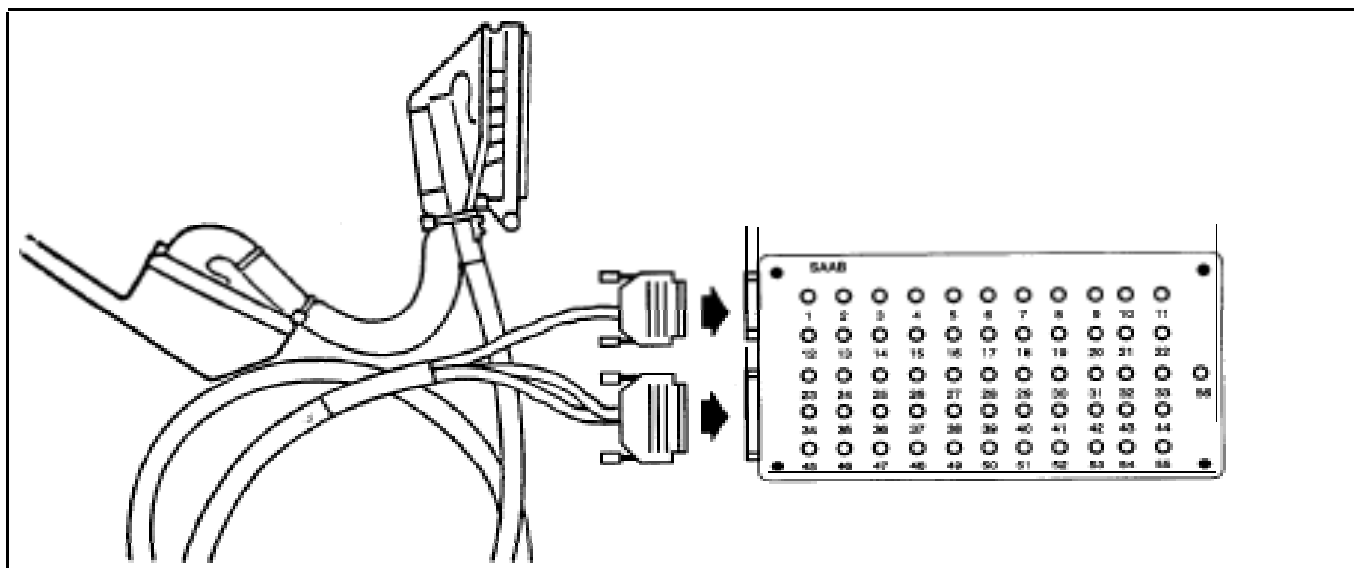

Figure 3. 55-pin cable 86 11 030 and Breakout Box 86 11 006
1. Unplug the 55-pin connector from the ABS control module and connect the breakout box to the wiring harness by means of 55-pin cable 86 11 030, Figure 3. Do **not** connect the ABS control module.
1. Unplug the 55-pin connector from the ABS control module and connect the breakout box to the wiring harness by means of 55-pin cable 88 11 030, Figure 3. Do **not** connect the ABS control module.